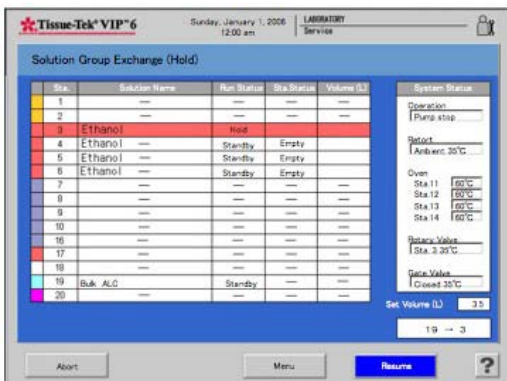

Figure 3-BBBB
- The Exchange Hold (Solution Group Exchange) screen is displayed (Figure 3-BBBB).